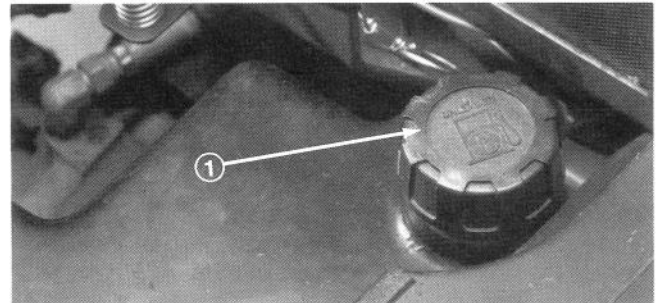

Figure 18
2. Remove cap from the fuel tank (Fig. 18) and fill the 8-1/2 gallon (30.3 l) tank to within 1 inch (25 mm) from the top of the tank (bottom of filler neck) with gasoline. Install fuel tank cap tightly after filling tank and lower seat.